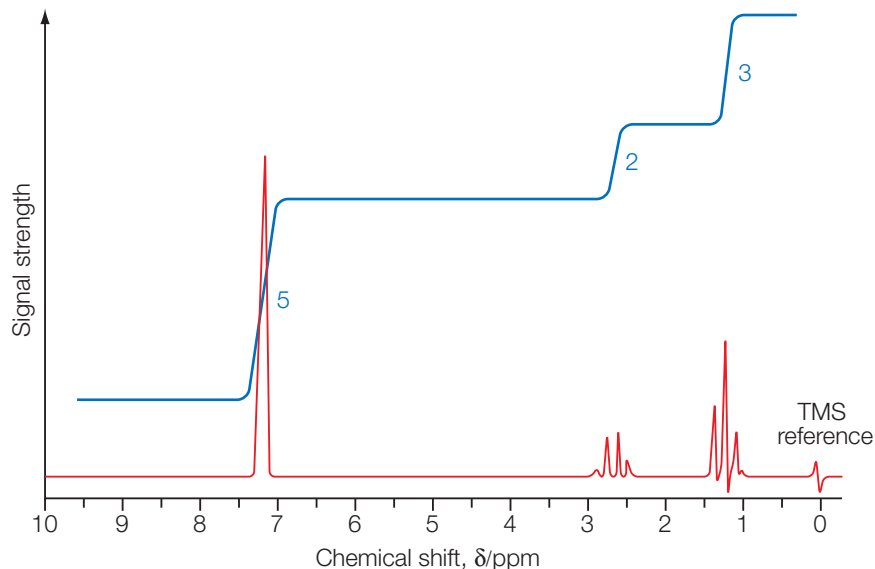

Figure 9.10 ▲
- 13 Use the Data sheet: 'NMR chemical shifts' from the Dynamic Learning Student website to suggest a structure for the aromatic hydrocarbon with the proton NMR spectrum shown in Figure 9.10.